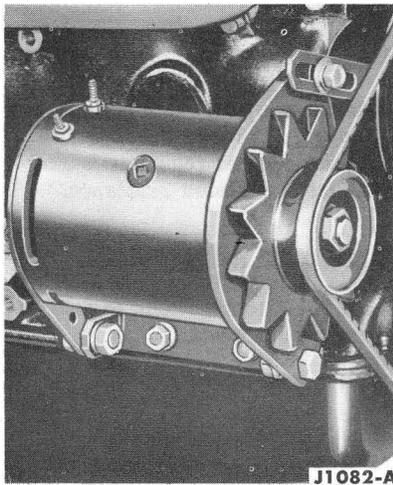

FIG. 2—Generator Mounting
and cooling-fan assembly. The pulley is connected to the engine crankshaft pulley with a belt. The generator mounting is shown in Fig. 2.
2. Remove the adjustment arm to generator bolt, the generator belt, and the two pivot bolts from the mounting bracket. Then remove the generator (Fig. 2).
4. Install the generator in the bracket with the two pivot bolts and lockwashers (Fig. 2).